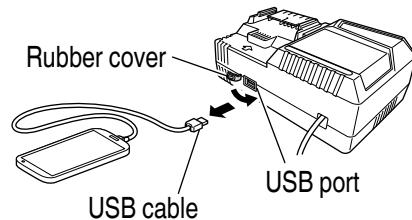

Fig. 26
(3) When charging is completed
- Unplug the power cord from the electrical outlet. (**Fig. 26**)